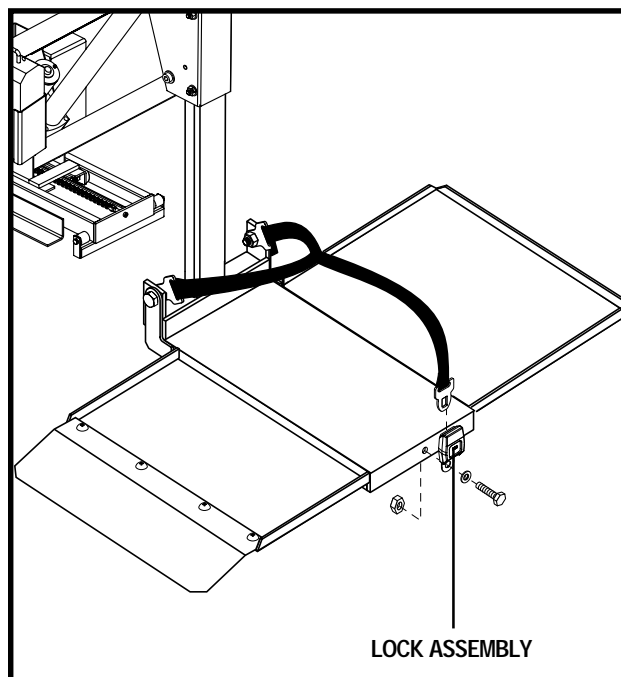

Figure 4. Y-Strap Installation
20. Drape the Y-strap over the platform and secure the lock assembly to the lift platform. See figure 4.